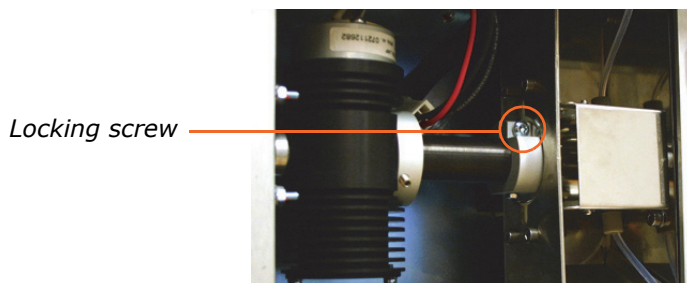

Figure 5-13. Loosen the Locking Screw (UV Detector Shown)
4. Loosen the screw locking the UV lamp in a vertical position (see Figure 5-13) using a Torx 20 screwdriver.